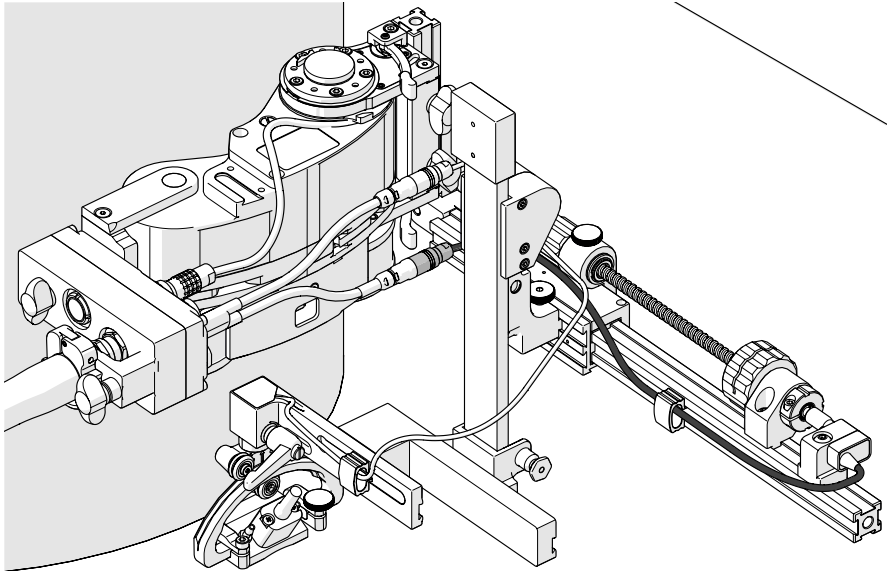

Fig. 231 - Route encoder cable to the 3-axis encoder cable
4. Route the PPS encoder cable as required to plug into the 3-axis encoder cable (*Fig. 231*).